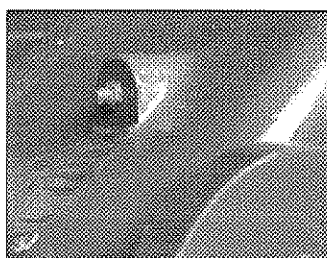

fig. 40a
- fig. 40a shows the guide shoe lubricator for the column rotation, placed in the back of the base on the column support.